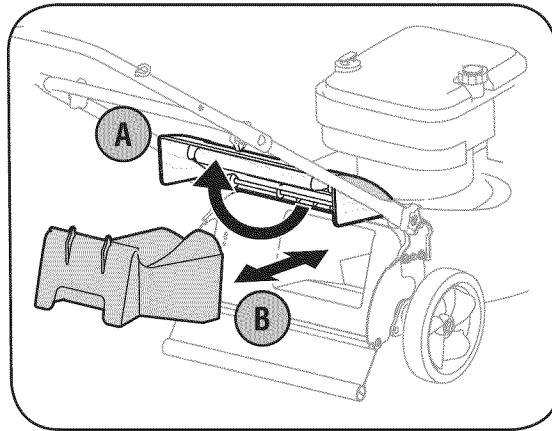

Figure 3-5: The mulching baffle
6. Before attaching the grass catcher, the mulching baffle must be removed. See Figure 3-5.
- b. Insert the mulching baffle as shown in Figure 3-5 and release the rear discharge door.